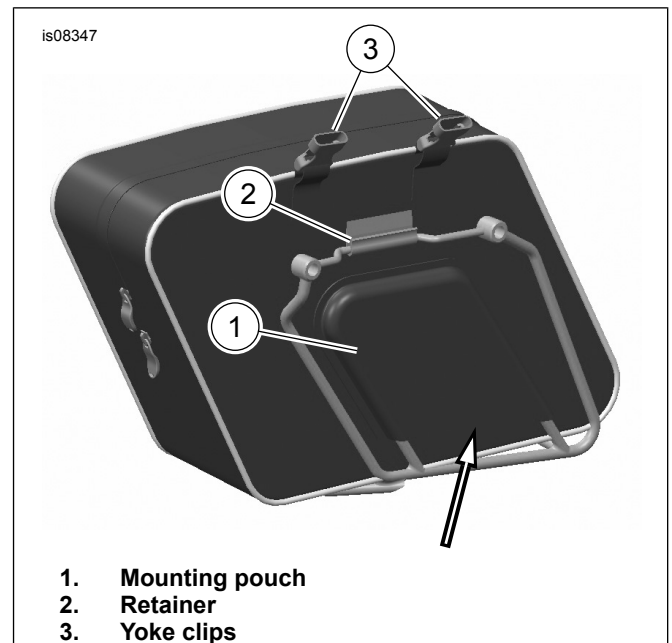
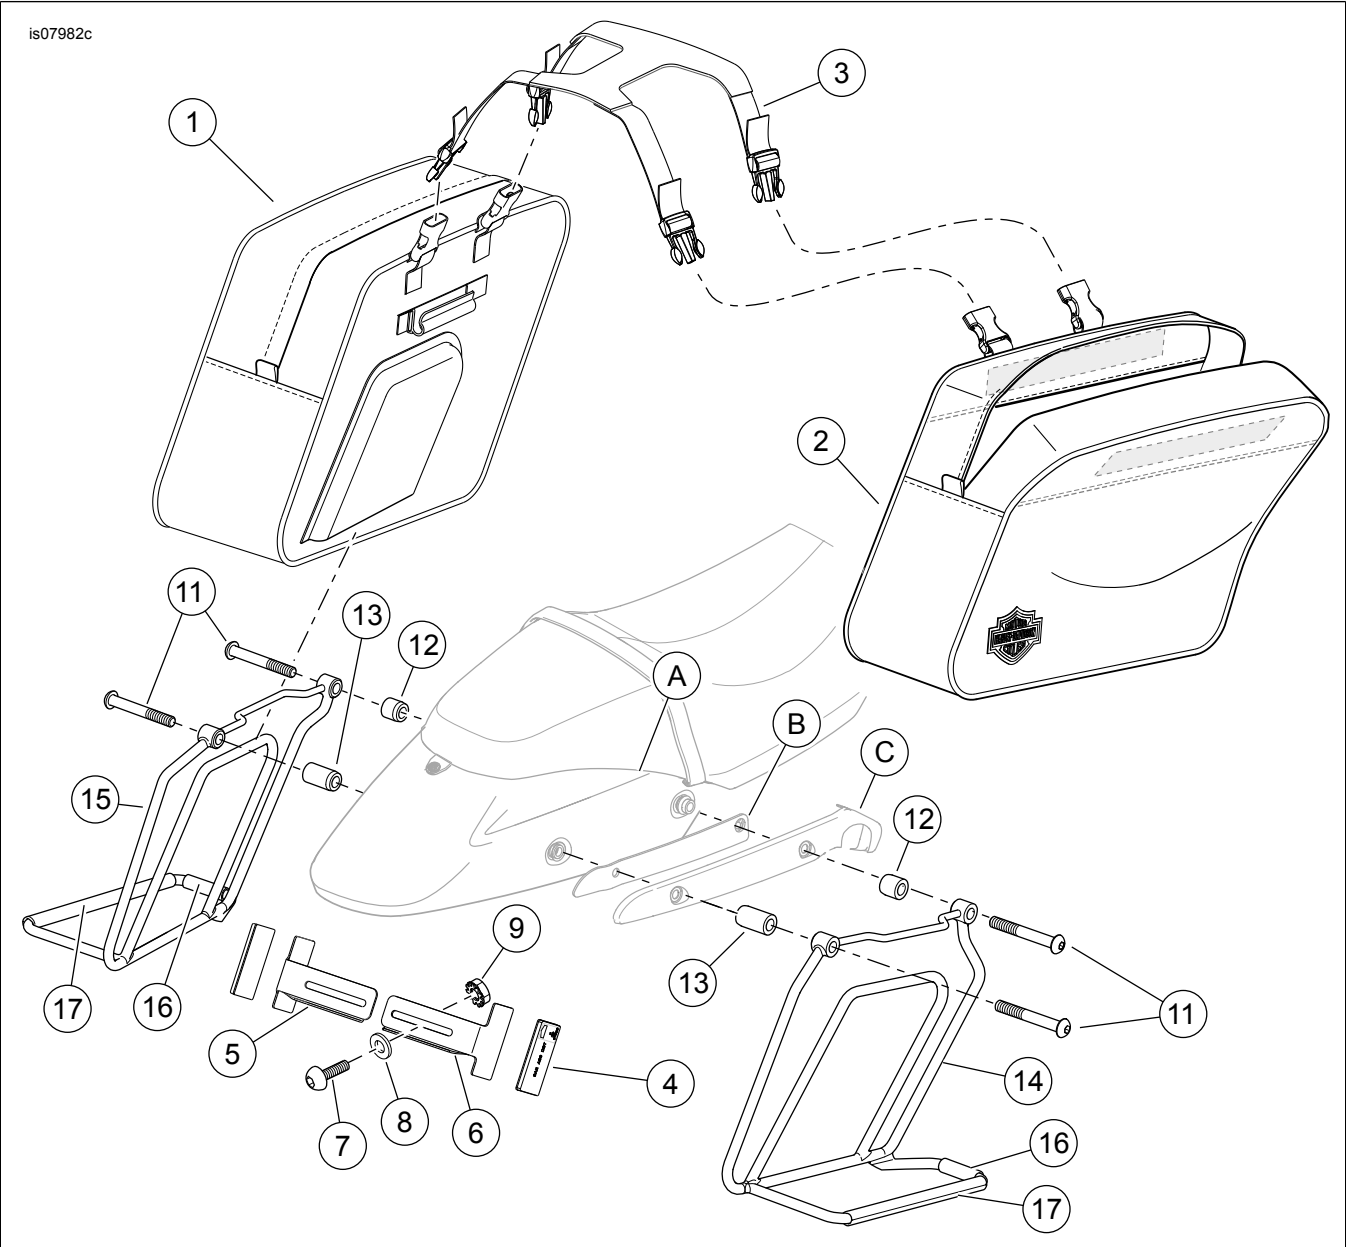

Figure 2. Saddlebag Installed
Figure 3. Kit Contents: Throw-Over Saddlebag Kit
See Figure 3 and Table 1.
3. See Figure 3. Secure saddlebag support:
- a. Apply Loctite 243 (Blue) to the threads on the screws before installing. Pass forward screw (11) through saddlebag support, front spacer (12), fender support cover (C), support cover spacer (B) and fender (A). Verify that chamfer on spacer is facing inboard. Secure to frame finger-tight.
- b. Repeat with rear screw using rear spacer (13).
- c. Install screw (11) to secure rear of saddlebag support.
- d. Tighten screws (11) to 45–55 N·m (34–40 ft-lbs).
1. See Figure 2. Place saddlebag mounting pouch (1) over the inner hoop of the saddlebag bracket.
2. Secure retainer (2) onto saddlebag support cross member by pulling up on the yoke clips (3). A positive snap feel verifies engagement.
4. See Figure 3. Install yoke (3) onto saddlebags and over seat. Cinch tight until saddlebags are secure.